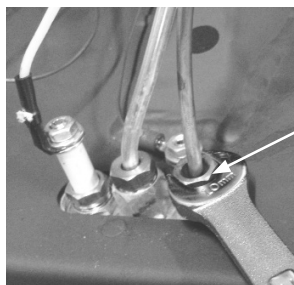

Figure 7.
Step 10: Using a 10mm wrench, remove the thermocouple fastening nut and slide the thermocouple out of the thermocouple tower. See Figure 7.